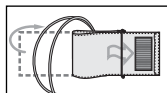

Fig. 3
1. Insert the cuff end for about 5 cm into a metal ring as shown in the fig. 3 (if cuff is with ring).